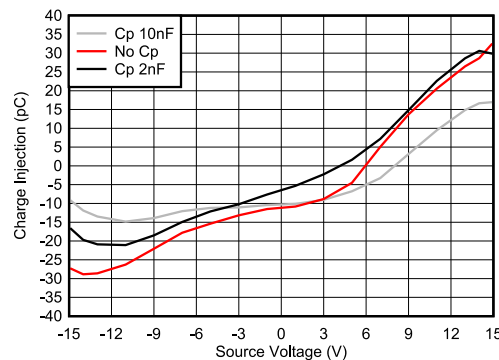

Figure 9-2. Charge Injection Compensation
The TMUX620x contain specialized architecture to reduce charge injection on the Drain (D). To further reduce charge injection in a sensitive application, a compensation capacitor ( $C_p$ ) can be added on the Source ( $S_x$ ). This will ensure that excess charge from the switch transition will be pushed into the compensation capacitor on the Source ( $S_x$ ) instead of the Drain (D). As a general rule of thumb,  $C_p$  should be 20x larger than the equivalent load capacitance on the Drain (D). Figure 9-2 shows charge injection variation with different compensation capacitors on the Source side. This plot was captured on the TMUX6219 as part of the TMUX62xx family with a 100pF load capacitance.
Many SAR ADCs have an analog input structure that consists of a sampling switch and a sampling capacitor. Many signal chains will have a driver amplifier to help charge the input of the ADC to meet a fast system acquisition time. However a driver amplifier is not always needed to drive SAR ADCs. Figure 9-2 shows a typical diagram of a sensor driving the SAR ADC input directly after being passed through the multiplexer. A filter capacitor ( $C_{FLT}$ ) is connected to the input of the ADC to reduce the sampling charge injection and provides a charge bucket to quickly charge the internal sample-and-hold capacitor of the ADC.
The sensor block simplifies the device into a Thevenin equivalent voltage source ( $V_{TH}$ ) and resistance ( $R_{TH}$ ) which can be extracted from the device datasheets. Similarly the multiplexer can be thought of as a series resistance ( $R_{ON(MUX)}$ ) and capacitance ( $C_{ON(MUX)}$ ). To ensure maximum precision of the signal chain the system should be able to settle within 1/2 of an LSB within the acquisition time of the ADC. Figure 9-2 shows the time constant can be calculated. This equation highlights the importance of selecting a multiplexer with low on-resistance to further reduce the system time constant. Additionally low charge injection performance of the multiplexer is helpful to reduce conversion errors and improve accuracy of the measurements.